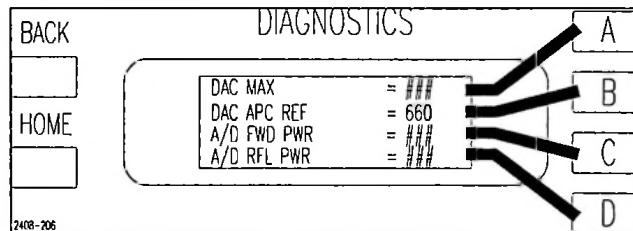

Figure 5-5 A/D FWD PWR Screen
- STEP 8** Press [HOME, MORE, CONFIGURATION C, B]. This will take you to the screen shown in Figure 5-5. Using the Raise and Lower buttons, set the DAC_APC_REF to 660.